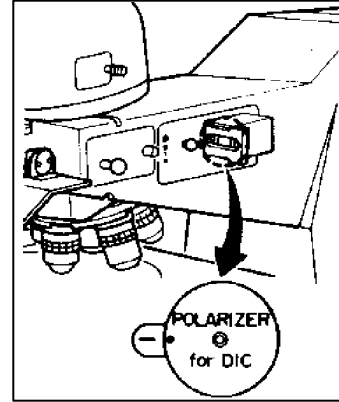

Figure 1-18
- 9) Press the polarizer rotation key to align the index dot on the polarizer with the horizontal bar marker [-]. This is the crossed Nicols position. If the analyzer is a fixed type, its direction has already been adjusted. If a rotating analyzer is used, align its index dot [?] on the rotation ring with the pointer [→] to obtain the crossed Nicols effect. (Figure 1-18)